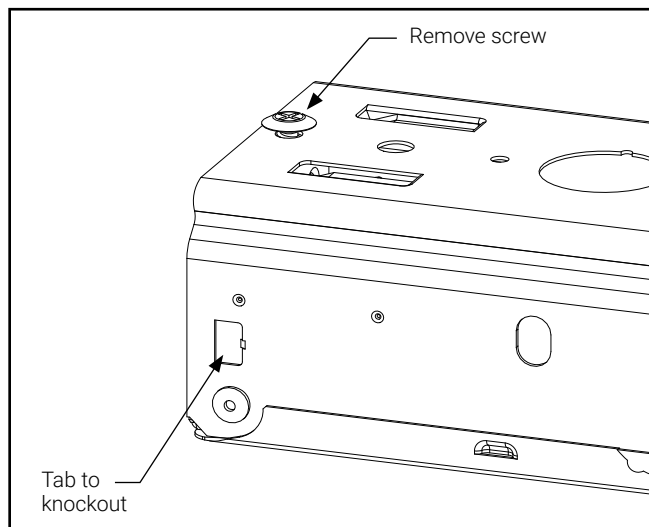

Figure 2.
2. Knock out the 2 tabs on each side of the channel where the decorative endcaps will be installed (Figure 2).
3. Remove the screw on the top of the channel. Save for reinstall (Figure 2).